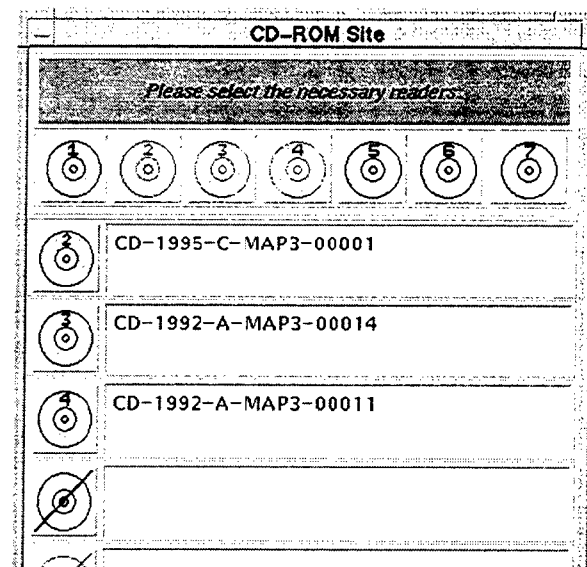

Fig. 77 — CD-ROM Site Window: titles listed for selected CD readers
- 4) Select *Scan Readers* (in the lower-left corner of the window); MMC will list the titles of the CDs on the selected readers (Fig. 77).